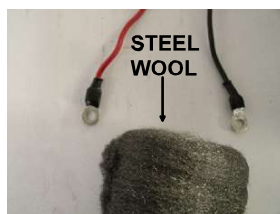
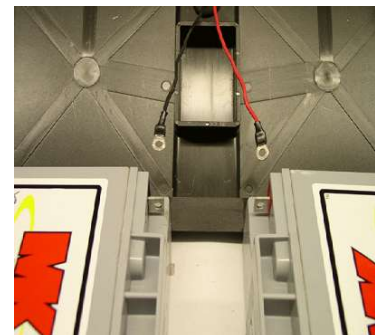
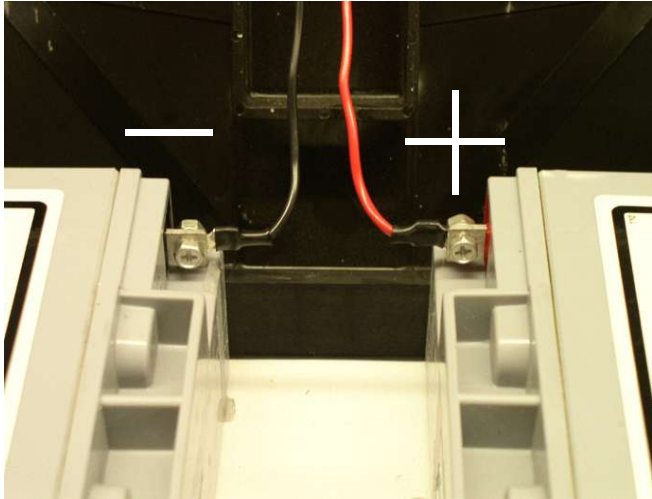

Figure 14
Figure 15
Figure 16
STEP 6: Clean the terminals on the wire harness using steel wool or fine emery cloth.(See Fig.14) Clean terminals, and a tight connection, will provide the maximum flow of current, ensuring maximum performance and life from your new batteries. Attach the wire harness to the batteries.(See Fig 15) **IMPORTANT: RED-POSITIVE WIRE AND BLACK- NEGATIVE WIRE MUST ATTACH TO THE CORRESPONDING BATTERY TERMINALS AS SHOWN.(See Fig 16)**